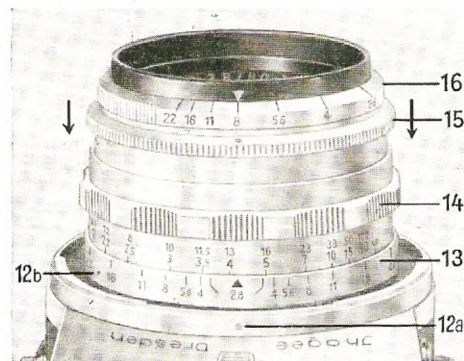

Fig. 5
The lens (17) is interchangeable: Push the knob (18) in the direction of the camera back, turn the lens to the left (looking at the camera front) until the red dots 12a and 12b (Fig. 5) stand against each other. Lift the lens off the camera front. — When installing the lens, first place it on the camera so as to make the red dots meet and then turn it to the right until it clicks in.
Lenses with diaphragm presetting device have an adjustable stop ring for the diaphragm ring. On most lenses, the pre-setting ring (15) behind the diaphragm scale has to be pushed back towards the camera (Fig. 5), whereupon the diaphragm ring (16) must be rotated until the aperture (= diaphragm number) with which the exposure is to be made, stands against the red marking dot. Now let the presetting ring (15) spring back into its original position. Focusing can be performed with the lens at full aperture and, immediately before releasing the shutter, without changing the position of the camera, the diaphragm ring (16) is turned back to the "pre-set stop". — With other lenses, there may be slight deviations concerning the employment of the "diaphragm presetting device".